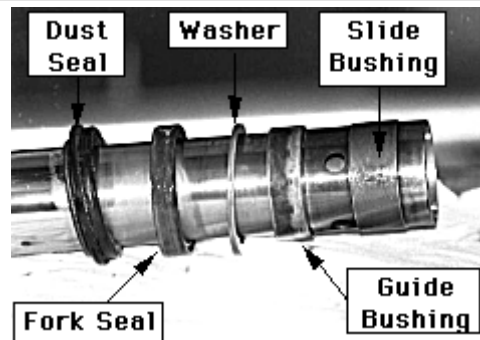

Fig 10
14. Use a flat tipped screwdriver and open the slide bushing. Slide the bushing off. Remove the guide bushing, washer, oil seal, retainer, and dust seal, **fig 10**.
34. Remove the piece of plastic and install the washer, guide bushing, and slide bushing **fig 10**.